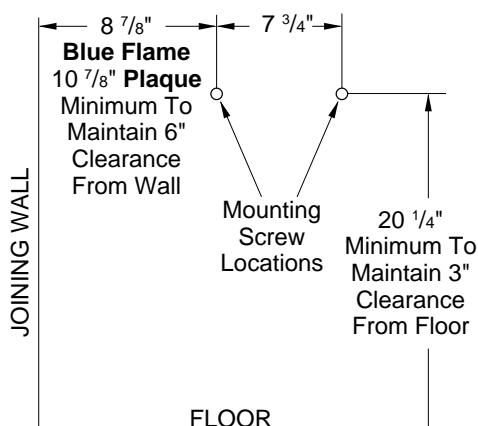

Figure 5 - Mounting Screw Locations
**⚠ WARNING: Maintain minimum clearances shown in Figure 5. If you can, provide greater clearances from floor and joining wall.**
2. Mark two mounting screw locations on wall (see Figure 5).